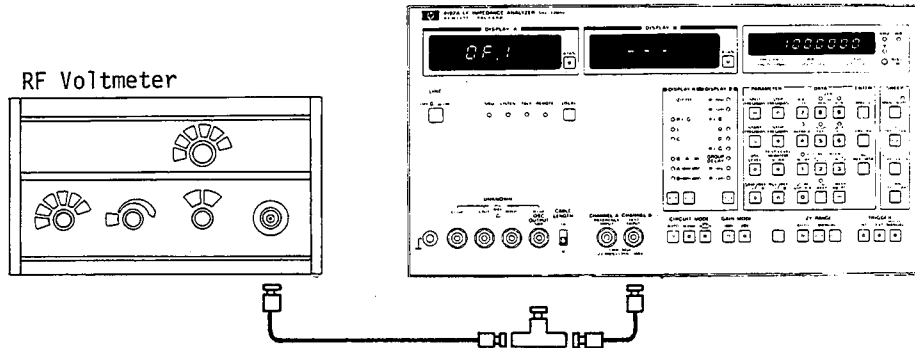

Figure 5-12. A11 IF Amplifier Adjustmtn Setup.
- a. Connect the 3403C to the 4192A as shown in Figure 5-12.